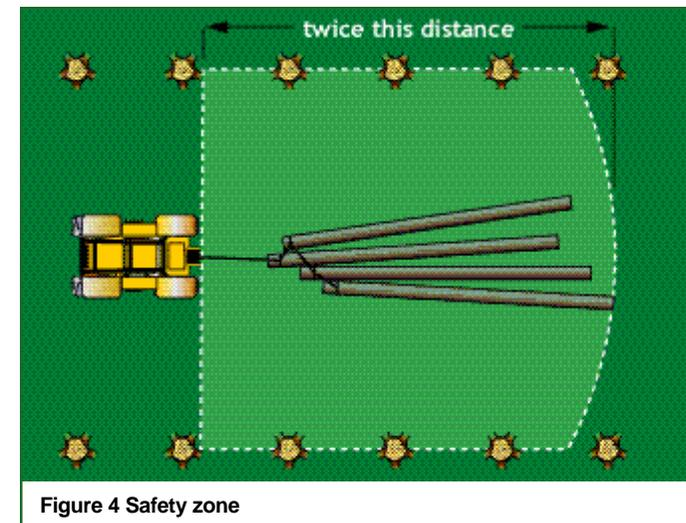

Figure 4 Safety zone
- 23 Stop work when anyone comes within a distance equal to twice the length of the load and hauling rope (see Figure 4).